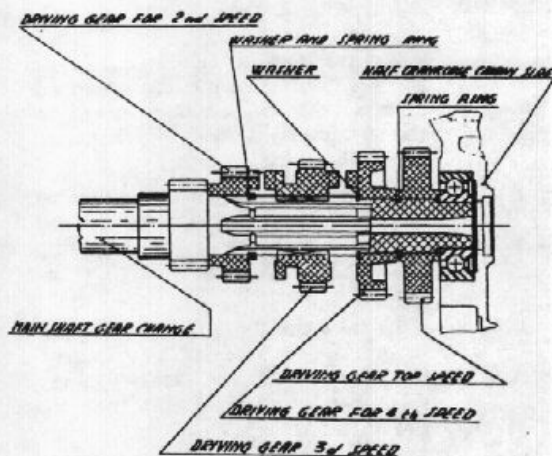

Fig. 73
**Step No. 3.** - Now take the main shaft, complete with its previously checked gears, making sure that the gear-engaging dogs mesh properly and that the gears slide freely. Assemble into its bearing, working with the small end first. Tap lightly into place with a plastic mallet (see Fig. 73).
**Step No. 4.** - (Assembly of Cam Drum and Gear-Engaging Forks). Take the cam drum with two (2) shim washers ( $\phi i=16.5$  and  $\phi i=36.5$  respectively). Insert drum into its place, checking to make sure that it rotates.